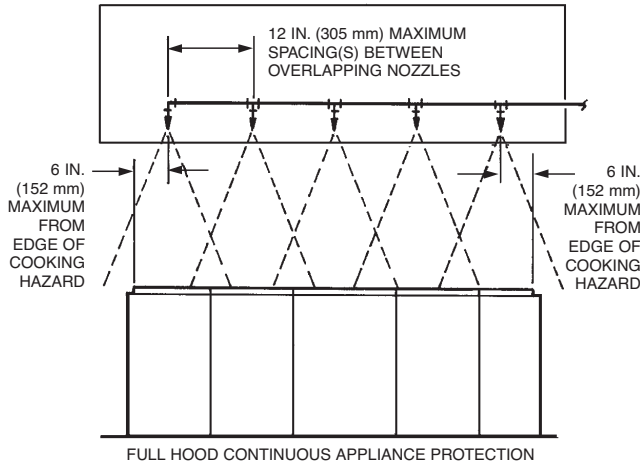
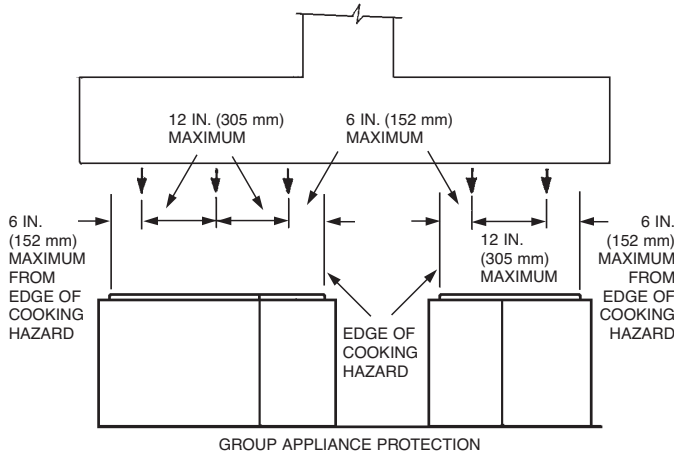

FIGURE 75
FIGURE 76
- See Figure 75 (full hood continuous protection) and Figure 76 (multiple group protection).
1. For each group of protected appliances under a common hood(s), the overlapping nozzles must be located from right to left so that each end nozzle is located a maximum of 6 in. (152 mm) inside the outside edge of the cooking hazard of each end appliance, and the inside overlapping nozzles must be located between the two end nozzles at a maximum spacing of 12 in. (305 mm). See Figures 75 and 76.